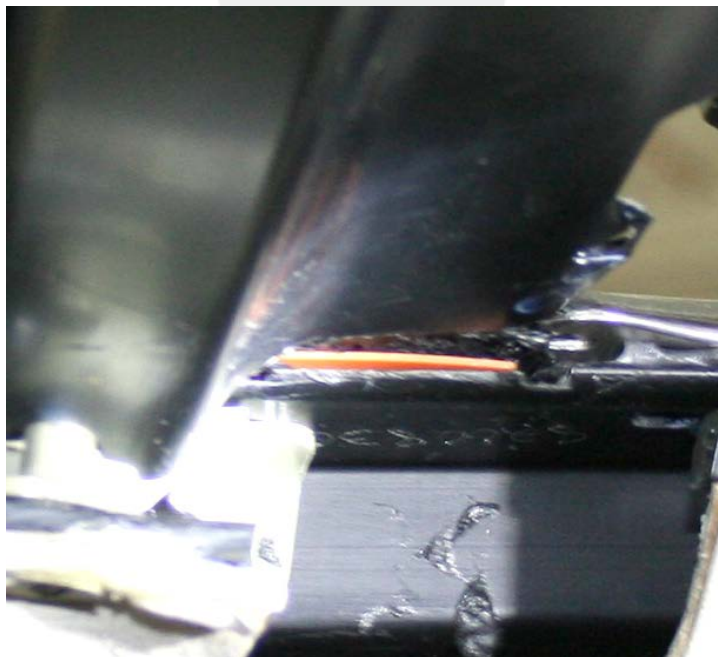

Figure 36 (LH side shown)
11. Rotate the shim into position lengthwise along the panoramic roof track (Figure 36). Use a pick to push it as far outboard as possible.